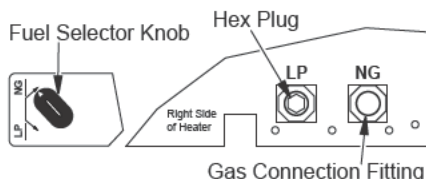

Figure 11 - Settings for Natural Gas Selection
(see Figure 11). Fuel selection device must be locked in the NG position. Do not operate heater between locked positions!
3. Remove hex plug (with wrench provided) from natural gas inlet of regulator (see Figure 11). Install hex plug into LP inlet of regulator. Install gas line into NG inlet of regulator. Use thread sealant to assure there are no leaks.